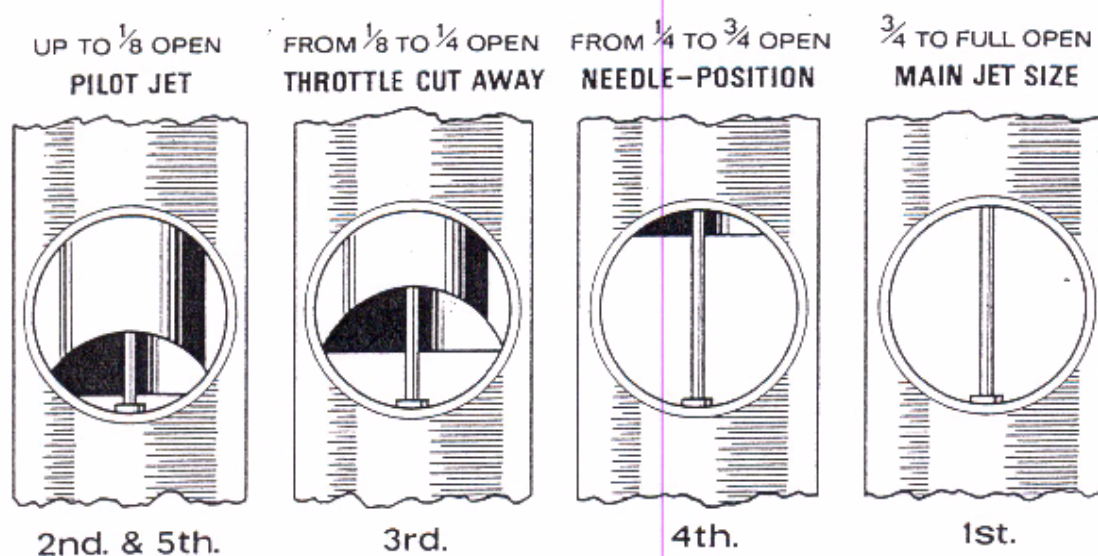

Fig. C2. Sequence of adjustment
1st. **Main Jet** with throttle in position 1 (Fig. C2). If at full throttle the engine runs "heavily", the main jet is too large. If at full throttle, the engine seems to have better power when the throttle is eased off or the carburetter intake is slightly covered, then the main jet is too small.
2nd. Pilot Mixture (Fig. C2) with throttle in positions 2 and 5. With engine idling too fast with the twist grip shut off and the throttle shut down on to the throttle adjusting screw, and ignition set for best slow-running: (1) Screw out throttle adjusting screw until the engine runs slower and begins to falter, then screw pilot air adjusting screw in or out, to make engine run regularly and faster. (2) Now gently lower the throttle adjusting screw until the engine runs slower and just begins to falter, adjust the pilot air adjusting screw to get best slow-running, if this second adjustment leaves the engine running too fast, go over the job a third time.
3rd. Throttle Cut-away with throttle in position 3 (Fig. C2). If, as you take off from the idling position, there is spitting from the carburettor, slightly richen the pilot mixture by screwing in the
4th. Needle with throttle in position 4 (Fig. C2). The needle controls a wide range of throttle openings and also the acceleration. Try the needle in as low a position as possible, viz. with the clip in a groove as near the top as possible; if acceleration is poor and with the carburettor inlet partially covered, the results are better, raise the needle by two grooves; if very much better try lowering the needle by one groove and leave it where it is best. If mixture is still too rich with clip in groove number 1 nearest the top, the needle jet probably wants replacement because of wear. If the needle itself has had several years' use replace it also.